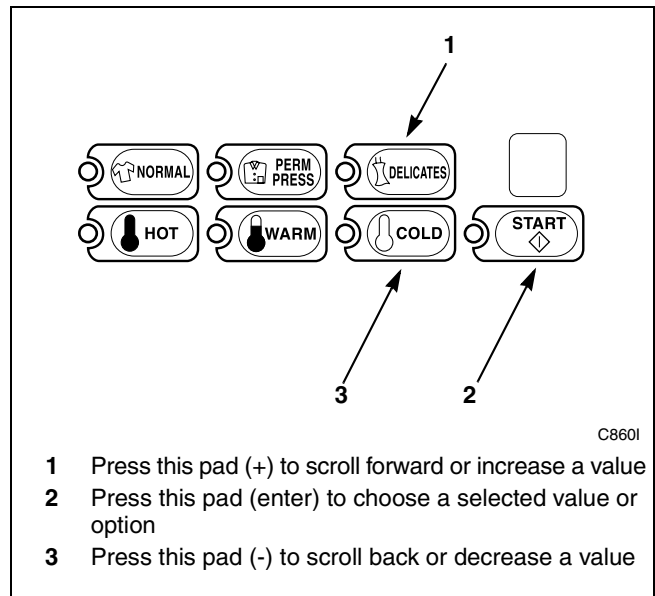

Figure 194
6. Press the DELICATES (+) or the COLD (-) keypad to increase or decrease the current number until correct. Refer to *Figure 194*.